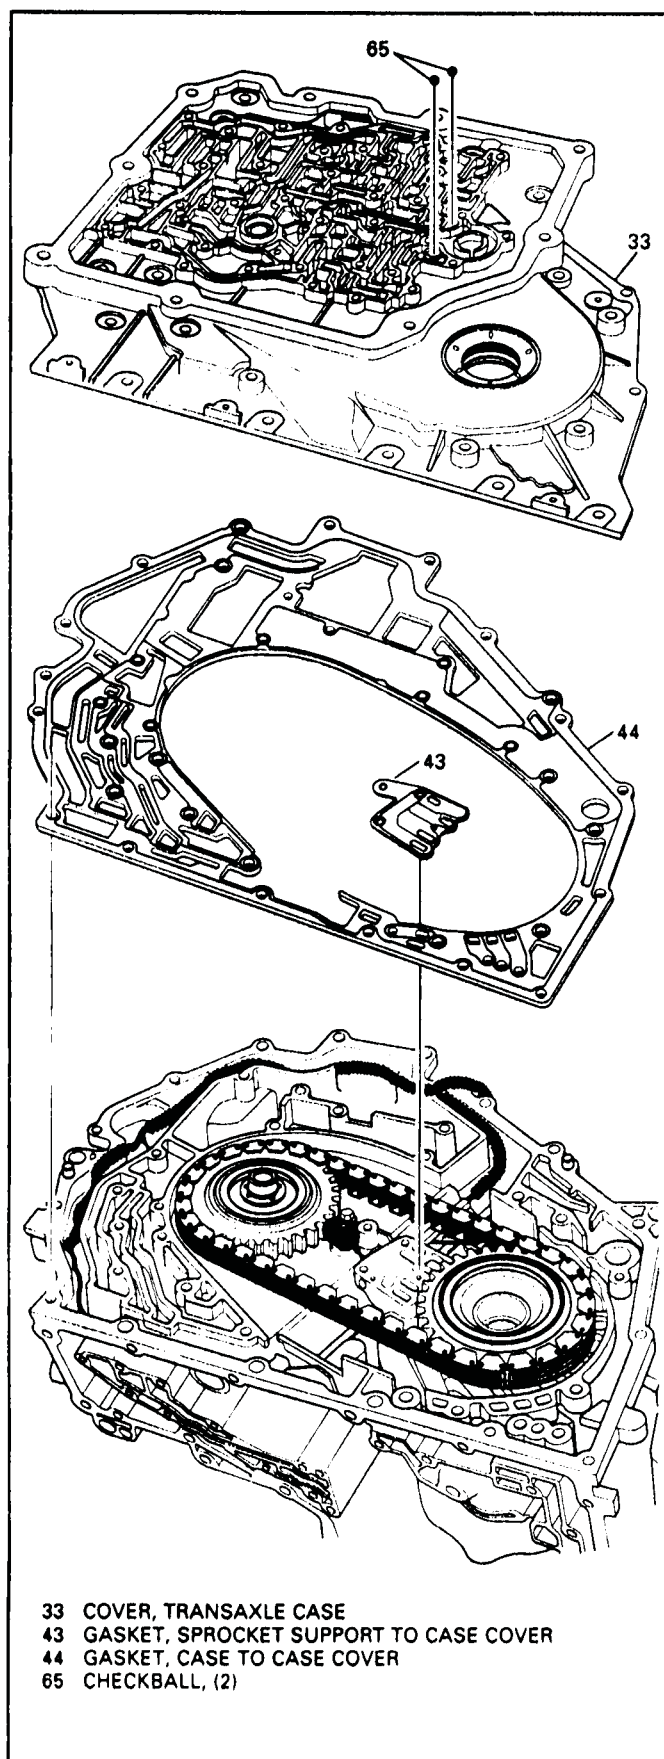

Figure 52
1. Remove two checkballs from location in case cover, as shown in Figure 52.
4. Remove case cover gasket and island gasket and discard (See Figure 52).